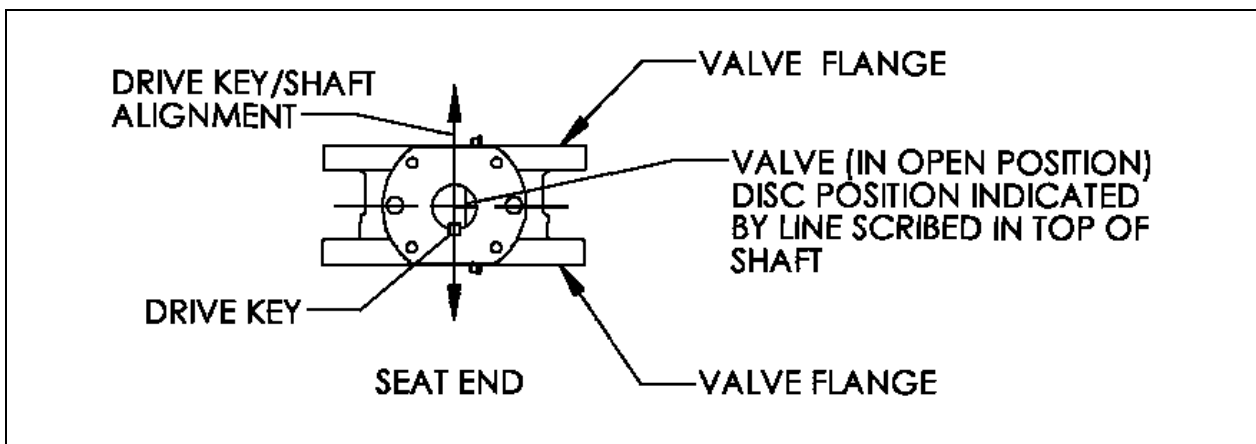

Figure 3 – Valve Open Position
4. Turn the handwheel, chainwheel or 2" wrenching square operator so the drive key/plug alignment is parallel to the valve flanges. See Figure 3 for valve open position.